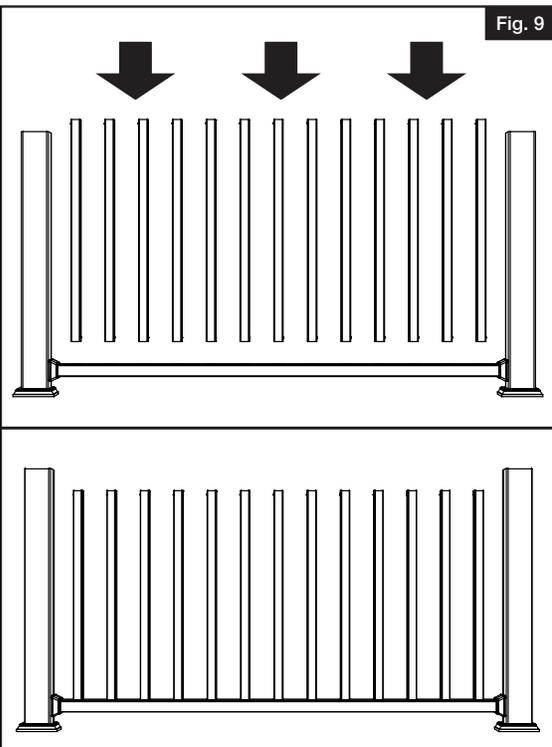

Fig. 9
- b. Push all balusters into bottom rail (Fig. 9).